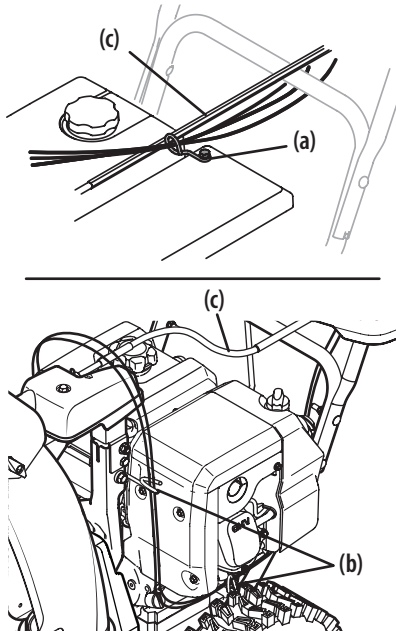

Figure 2-35
- Units with Top Mounted Wire Guide (a) - Check that all cables are properly routed through cable guide on top of engine. See Figure 2-35.
- Units with Side Mounted Wire Guides (b) - Check that all cables are properly routed through the wire guide below the left side of the engine and the wire guide below the chute control head. See Figure 2-35.